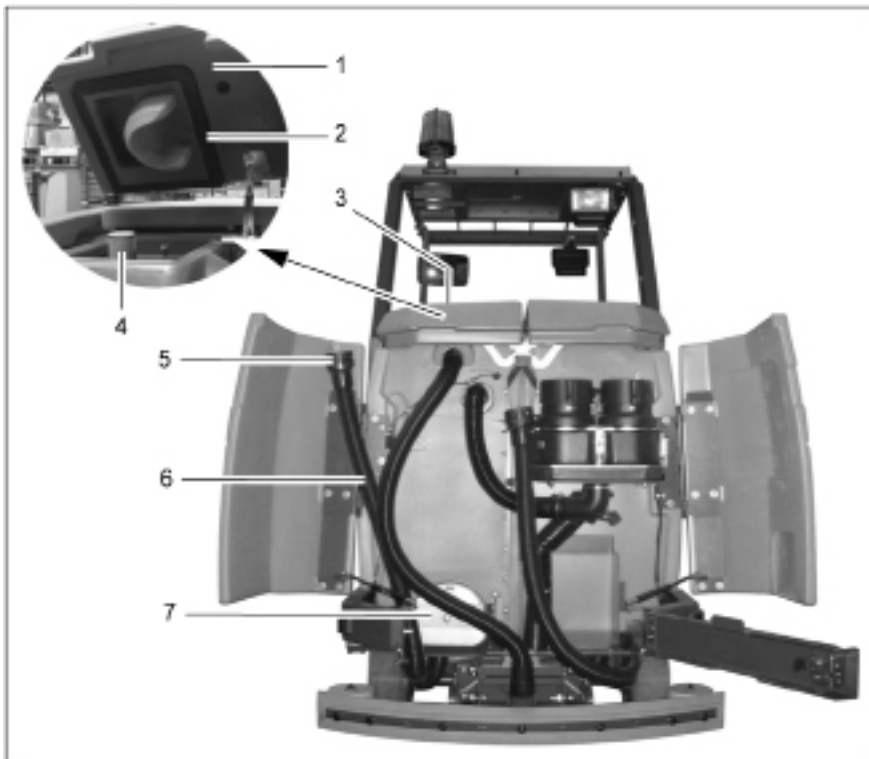

Fig 26
The recovery tank (Fig. 26/3) must be emptied and flushed clean after finishing work.
3. Detach the waste water draining hose (Fig. 26/6) and lower it slowly.
4. Unscrew the cap (Fig. 26/5) to open it. The quantity drained can be regulated by turning the cap and pivoting the cap open fully, if necessary.
Clean the recovery tank (Fig. 26/3) every day or as necessary. The cleaning flap (Fig. 26/7) is available for this.
6. Open the recovery tank cap (Fig. 26/1).
9. Unhook the waste water draining hose (Fig. 26/6), lower it slowly and open the cap (Fig. 26/5).